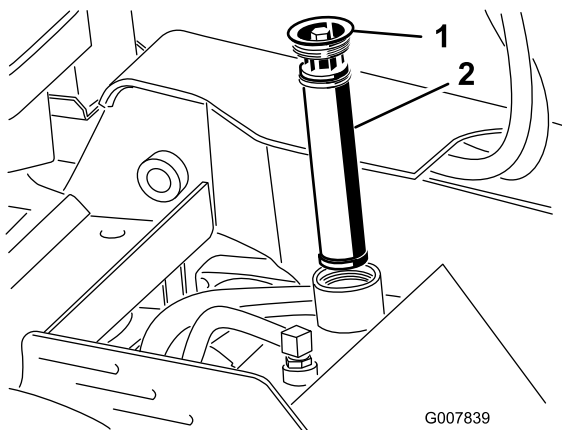

Figure 54
5. Clean the area around the filler neck of the hydraulic tank and remove the cap and filter from the filler neck using a socket (Figure 54).
5. Remove the hydraulic-tank filler cap and filter (Figure 54).
10. Install the hydraulic filter and filler cap (Figure 54) and torque the bolt on top to 13 to 15.5 N·m (110 to 140 in-lb).